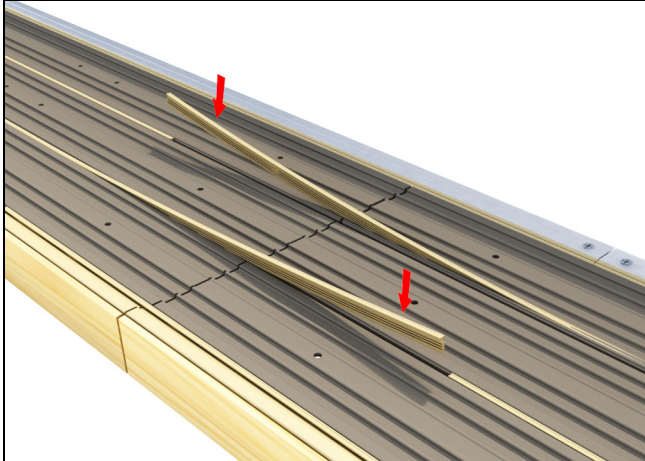

Figure 13
6. Press supplied frame wedge into head jamb frame assembly kerf and cut to length. Tapping gently with a soft mallet. See figure 13.